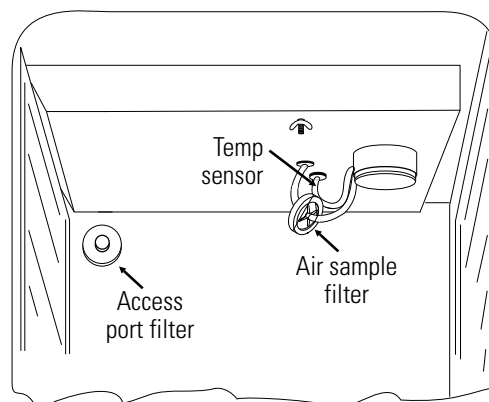

Figure 1-9. Filter and Sensor Locations
Locate the opening in the top left corner of the interior chamber. Remove the tape from the opening on the outside of the unit. Locate the stopper with filter in the hardware bag. Install in the opening inside the chamber. See Figure 1-9.
4. Insert the free end of the air sample filter tubing into the larger hole in the back of the blower scroll. See Figure 1-9 for completed configuration.